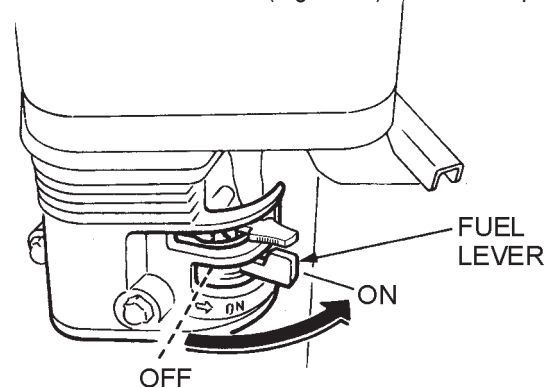

Figure 19. Engine Fuel Valve Lever
2. Place the **fuel valve lever** (Figure 19) to the "ON" position.